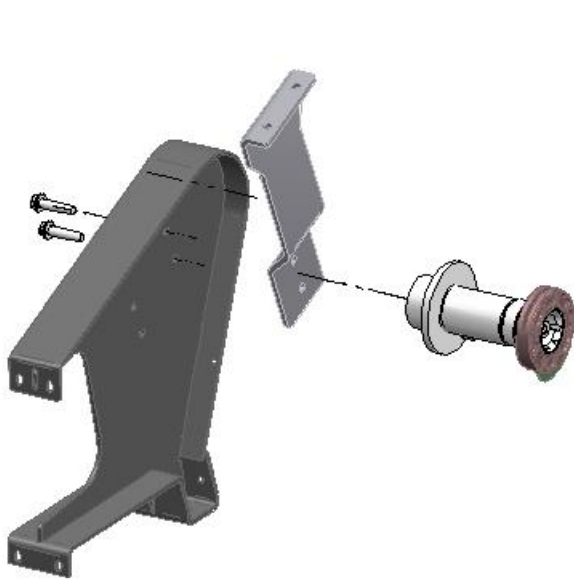

Figure 5A
6. Remove the bale from the heavy duty wire reel stand and flip it to the other side. Once flipped, bolt it back together using the same hardware you removed. This can be seen in Figures 5A, 5B and 5C below.